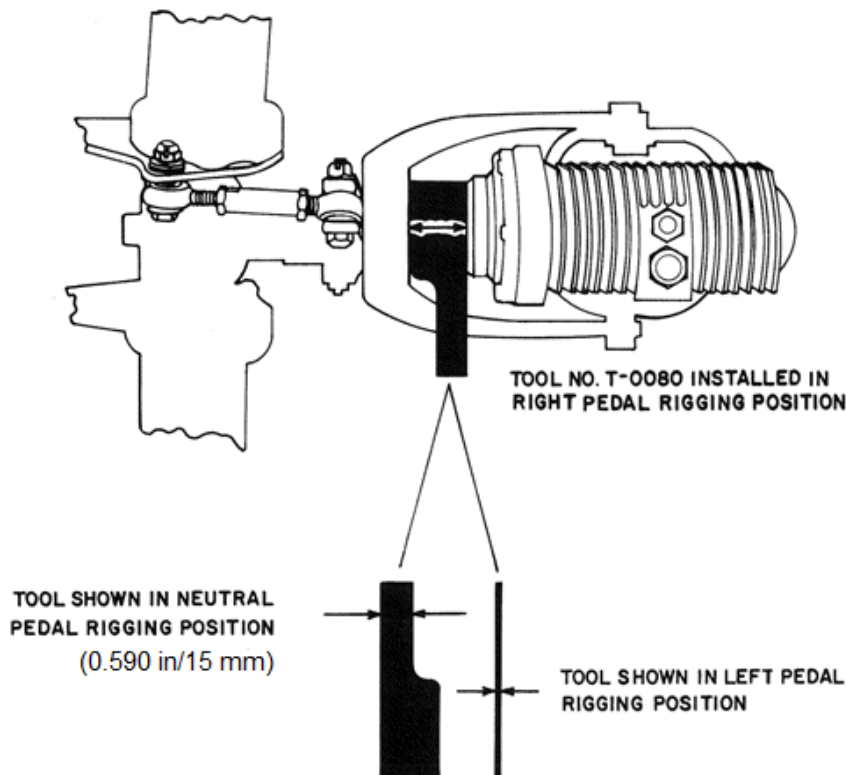

Figure 10-26. Rigging Tool T-0080 Installation
(1) Install the tail rotor rigging tool T-0080 (0.590 in/15 mm side) between the bearing retainer and the output shaft seal retainer to hold the tail rotor pitch controls in the neutral position (Fig. 10-26). Secure the pitch control assembly in this position by installing wooden wedges between the pitch control assembly and the transmission on the right side of the transmission (Fig. 10-27).
(2) Verify that the pilot and co-pilot pedals are in alignment to each other.
(3) If the pedals are not even, adjust the tension as follows:
(1) Verify the cable tension is set (Para. 10-7.A).
(2) If required, remove the wraparound cowl and baggage box, if necessary.
(3) Remove the seat cushions, seat deck (Para. 8-8.A), and the left floor panel.
(4) Install the tail rotor rigging tool T-0080 (0.590 in/15 mm side) between the bearing retainer and the output shaft seal retainer to hold the tail rotor pitch controls in the neutral position (Fig. 10-26). Secure the pitch control assembly in this position by installing wooden wedges between the pitch control assembly and the transmission on the right side of the transmission (Fig. 10-27).
- (5) Verify that the pedals are in alignment. If not aligned, adjust the cable tension in accordance with Para. 10-7.A.
- (6) Remove the rigging tool T-0080 and wedges from the tail rotor transmission, then cycle the pedals and look for interference between the pitch control assembly pivot brackets and the tail rotor transmission.
- (7) Move the pedals to the full left position. Insert the tail rotor rigging tool T-0080 (narrow profile) between the output shaft seal housing and the face of the brass bushing in the pitch control assembly (Fig. 10-26). The rigging tool should just fit in when the pedals contact the left stop. Adjust the "left pedal adjustment stop" until the pedal and the control assembly make contact at the same time (Fig. 10-28).
- (8) Move the control pedals to the the full right position. Insert the tail rotor rigging tool T-0080 (widest profile) between the output shaft seal housing and the face of the brass bushing in the pitch control assembly (Fig. 10-26). The rigging tool should just fit in when the pedals contact the right stop. Adjust the "right pedal adjustment stop" until the pedal and the control assembly make contact at the same time (Fig. 10-28).
- (9) Install the wraparound cowl and the baggage box, if removed.
- (10) Install the left floor panel, seat deck (Para. 8-8.D), and seat cushions.
(i) Install the tail rotor rigging tool T-0080 (0.590 in/15 mm) between the bearing retainer and the output shaft seal retainer to hold the tail rotor pitch controls in the neutral position (Fig. 10-26). Secure the pitch control assembly in this position by installing wooden wedges between the pitch control assembly and the transmission on the right side of the transmission (Fig. 10-27).
- (i) Install the tail rotor rigging tool T-0080 (0.590 in/15 mm) between the bearing retainer and the output shaft seal retainer to hold the tail rotor pitch controls in the neutral position (Fig. 10-26). Secure the pitch control assembly in this position by installing wooden wedges between the pitch control assembly and the transmission on the right side of the transmission (Fig. 10-27).